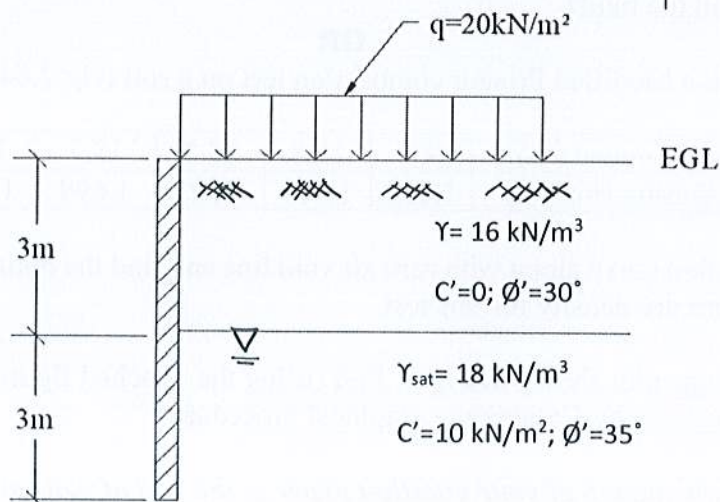

Fig. 6
8. a) Differentiate between__ (4)
b) For the retaining wall shown in Fig.6, determine the total force per unit length of the wall for Rankine's Active state. Also find the location of the total passive force. (11)